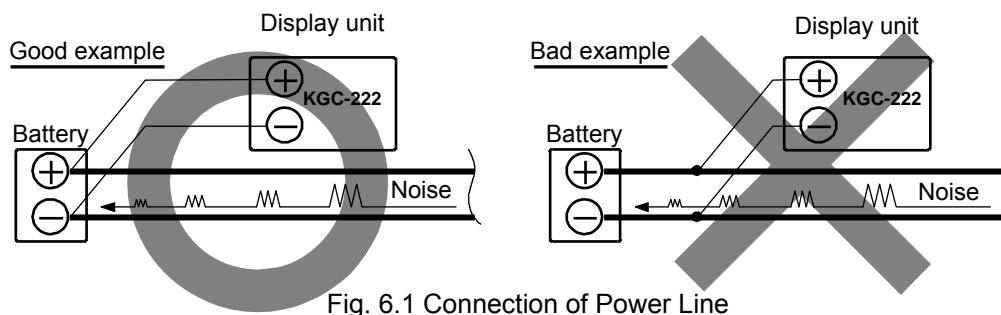

Fig. 6.1 Connection of Power Line
- (1) Keep the antenna cable and power cable as far away from the cables of other electronic equipment as possible.
- (2) The cabinet of Display unit shall be securely grounded to the hull, using the ground terminal on the rear panel.
- (3) If you connect the power cable directly to the battery, the interference from other electronic equipment is expected to be less. (See Fig. 6.1.)